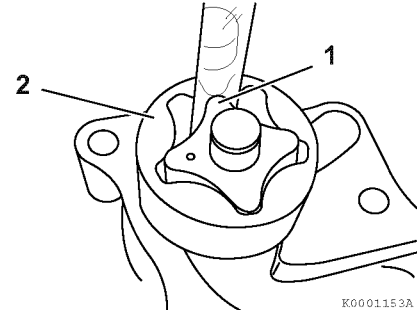

**Figure 9-25**
Determine the outside clearance of the outer rotor. Insert a feeler gauge between the outer rotor (Figure 9-25, (1)) and gear case oil pump cavity (Figure 9-25, (2)).